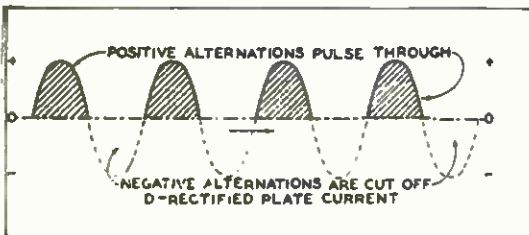

Figure 20
only the positive alternations (60) will flow to the plate. The negative alternations (also 60) will be cut off, and the resulting plate current will consist of a series of 60 impulses of direct current per second, as shown at "D" Fig. 20. The pulses or vibrations can be filtered and smoothed out with condensers and filters (choke coils) as will be explained in Chapter Fourteen. (For other examples of alternating currents see Chapter Two.) A tube using only a cathode or filament heater and a plate is called a *diode* or *two-element* type. Such tubes are types 2Z3, 12Z3, and—81. Elaborations which provide *full-wave* rectification of alternating current are found in types 5Z3, 25Z3, 25Z5. —80, —82, —83 and —84.